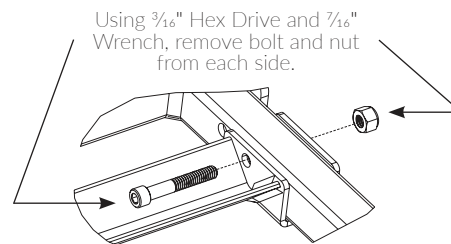

Figure 6-21
- Using a  $\frac{3}{16}$ " hex drive and  $\frac{7}{16}$ " wrench, remove the bolt and nut from each side of the platform. See Figure 6-21.